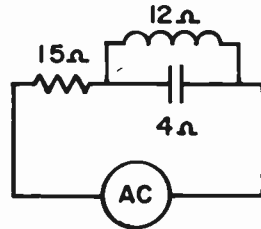

FIG. 4-36.
**PROBLEM:** Find the total impedance of the circuit of Fig. 4-36.
We can use this method in the problem of Fig. 4-36 and see if it checks with the other method. Assume a voltage of 24 volts across the parallel branch. The currents would then be: